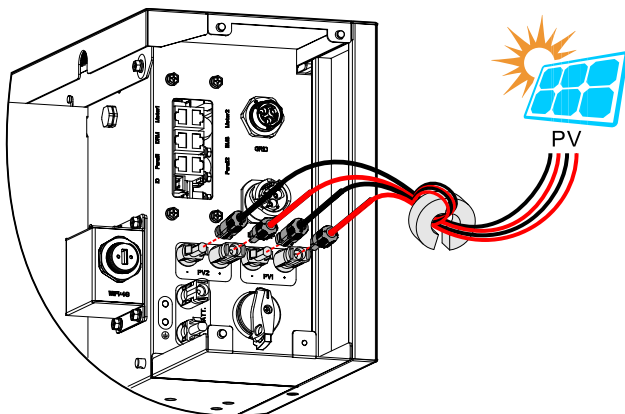

Figure 3-36 Connect the PV connector
Step 6 Insert the positive connector and negative connector (black) to the PV+ and PV– terminals (as shown in Figure 3-36) and tighten them. If there has a click sound, it means that the connector has been inserted properly.